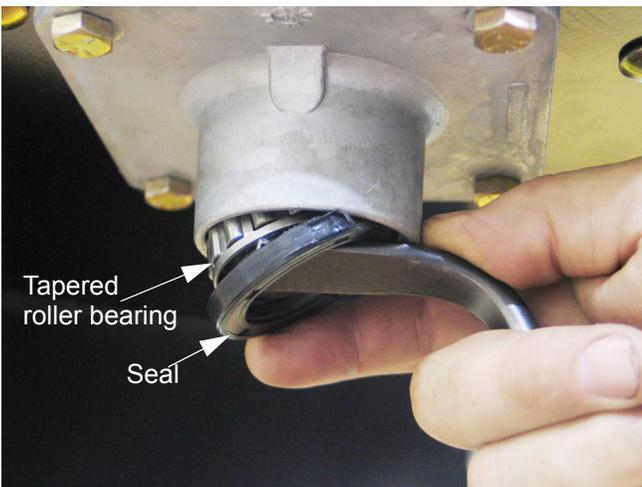

Figure 5.9
5.9. With the steel shields removed, the seals and bearings also come out easily. See Figure 5.9.